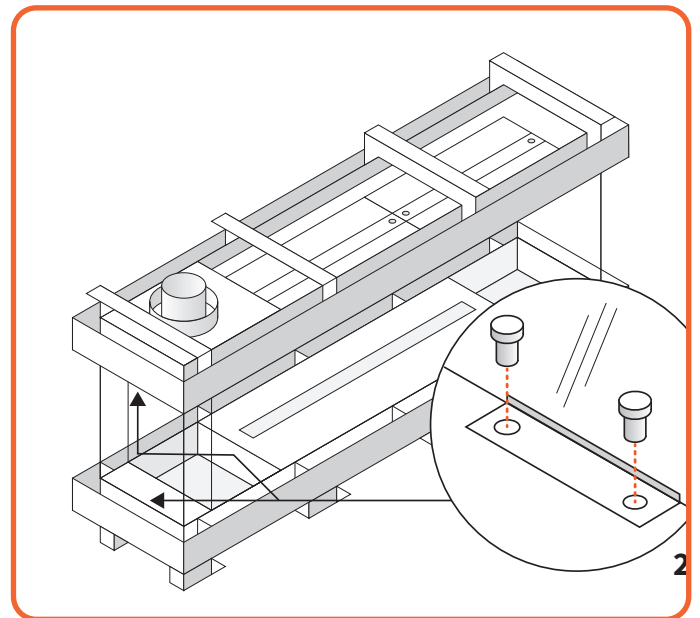
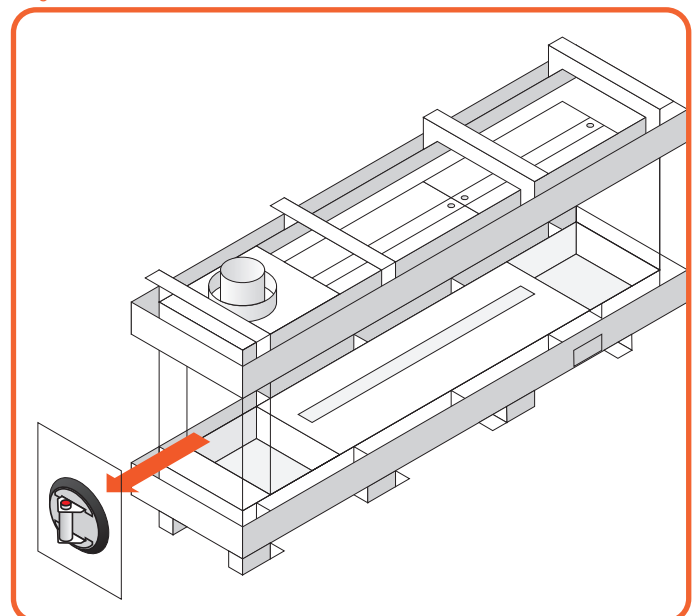
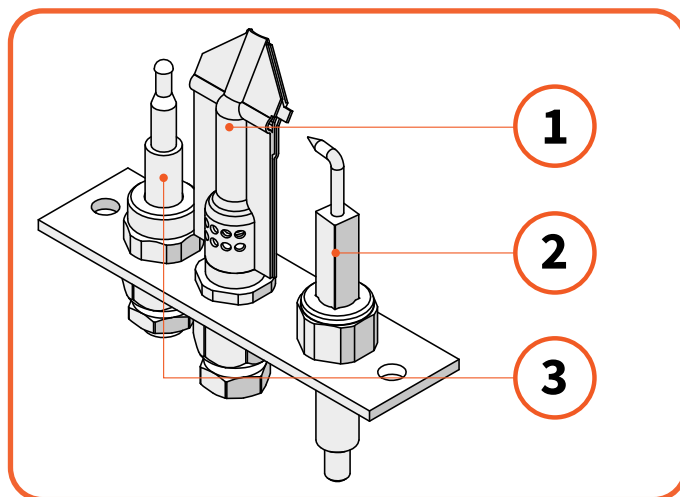

Figure 9.19 | Take out glass clamps for the side windows
Figure 9.20 | Take out short glass
Figure 9.21 | Isometric drawing of the pilot set
- Repeat these steps as shown in Figure 9.19 to Figure 9.20 for the panes on the ends of the stove.
For the maintenance of the burner different parts can be distinguished, all mentioned below. See **Figure 9.20** and **Figure 9.21** and **Table 9.1** for more info.